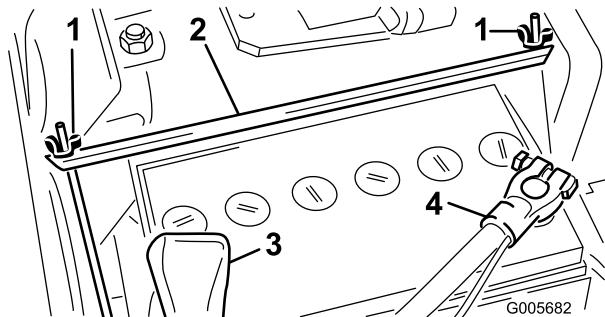

Figure 6
2. Remove two wing nuts and hold down strap that secures battery (Figure 6). Lift battery out of chassis. Keep wing nuts and hold down strap in safe place for later use.
in kit (Fig. 6). Install manual tube into R-clamps and tighten capscrews (Figure 7).